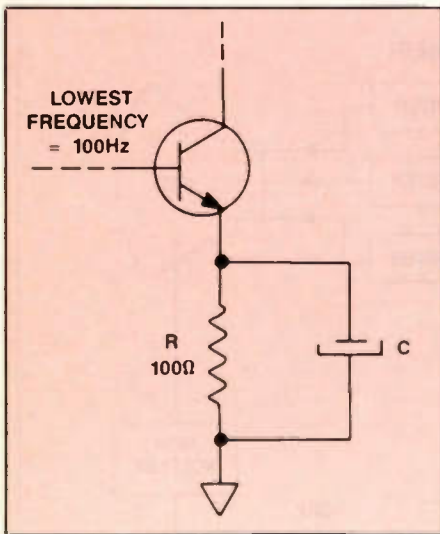

Figure 5.
7. The time constant of the RC circuit in Figure 5 is made to equal ten times the period of one half cycle of the lowest frequency being amplified. The lowest frequency is known to be 100Hz. What value of capacitance will you have to buy for C?